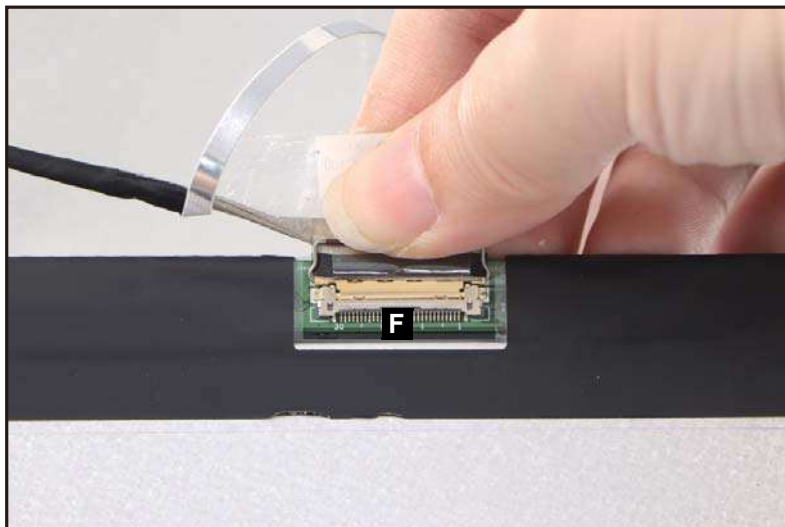

Figure 3-61. LCD Panel Removal
5. Disconnect the LCD cable from the LCD panel connector (F) (Figure 3-61). Then remove the LCD panel.